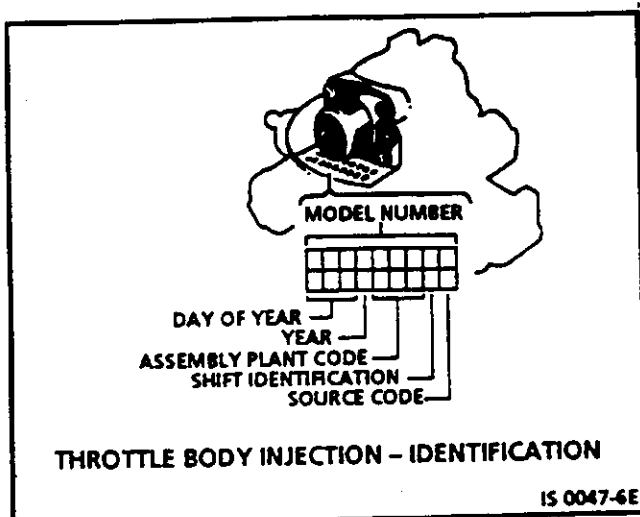

Figure 3.2-3 Throttle Body Injection Identification
The fuel meter assembly is rollmarked with an eight (8) digit model number, date (Julian), year, assembly plant code, shift identification and source code. Figure 3.2-3 shows the rollmark format. Refer to this model number when replacement is required. If the throttle body injection is removed, it is essential that care is taken to prevent damage to the throttle valve or sealing surface while performing any service.